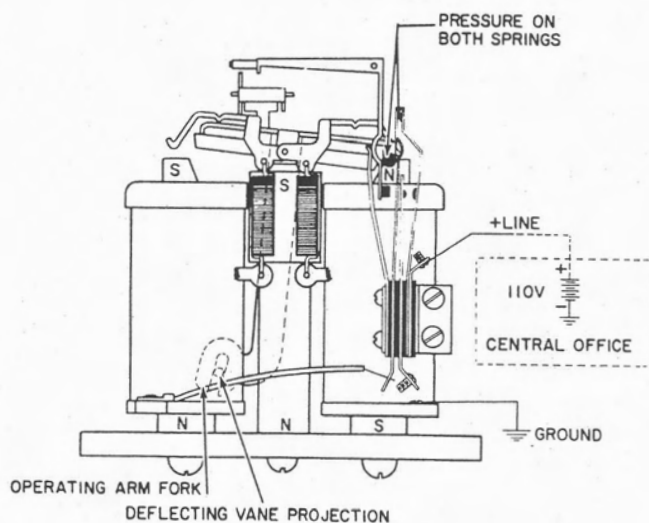

Figure 19. Coin relay - collection.
3.8.2 Completed call. When a caller hangs up after a completed call, +110 volts dc is applied to the positive line. The armature will pivot to the right as in figure 19. The operating-arm fork is caused to move to the left, as seen by the dotted image in the center of the drawing. Consequently the fork engaged with the deflecting-vane projection, causes the deflecting vane to move to the left, allowing the trap bottom to drop. The deflecting vane guides the coins to the cash compartment. Note that the operating-arm stud in moving downwards still keeps the ground-switch contacts closed. When the +110 volts dc is removed from the positive line, the restoring lever and restoring springs cause the armature to assume the horizontal position (figure 16).